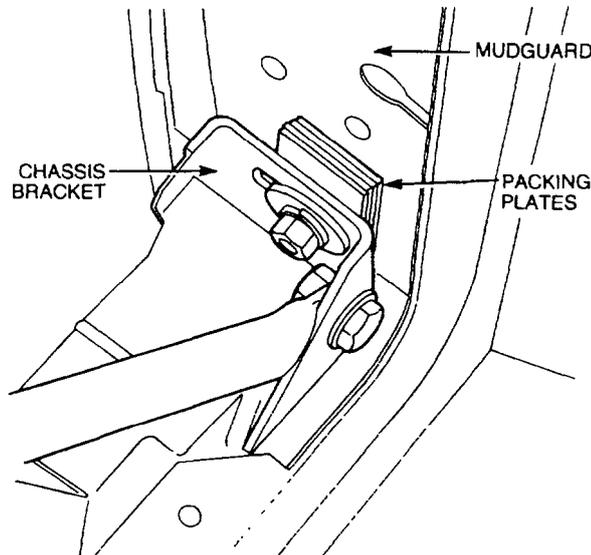

Figure 94 Left Mudguard Mounting
- h. Remove the nut, washers and bolt securing the mudguard to the chassis bracket and remove the packing plates if fitted (Figure 94).
- g. Install the packing plates (if required) between the mudguard and chassis bracket (Figure 94), and fit the bolt, washers and nut.